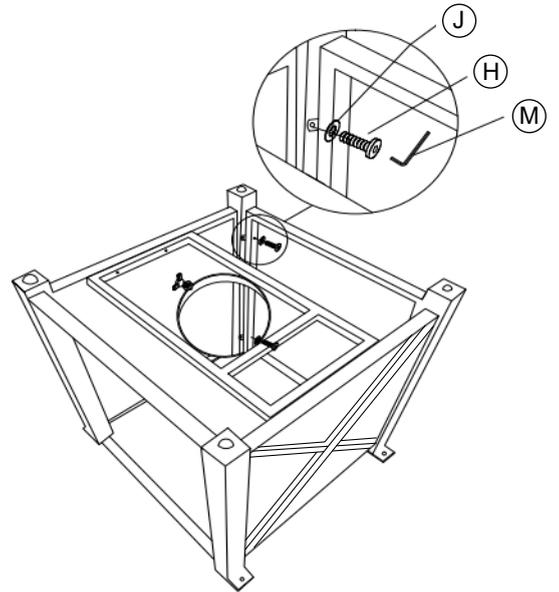

Figure 1
1. Attach the left side (c),right side(D),and back (E) with 8 bolts M6\*20mm (H) and 8 flat washer (J) by using the allen wrench (M) as shown on the right,(see figure1).